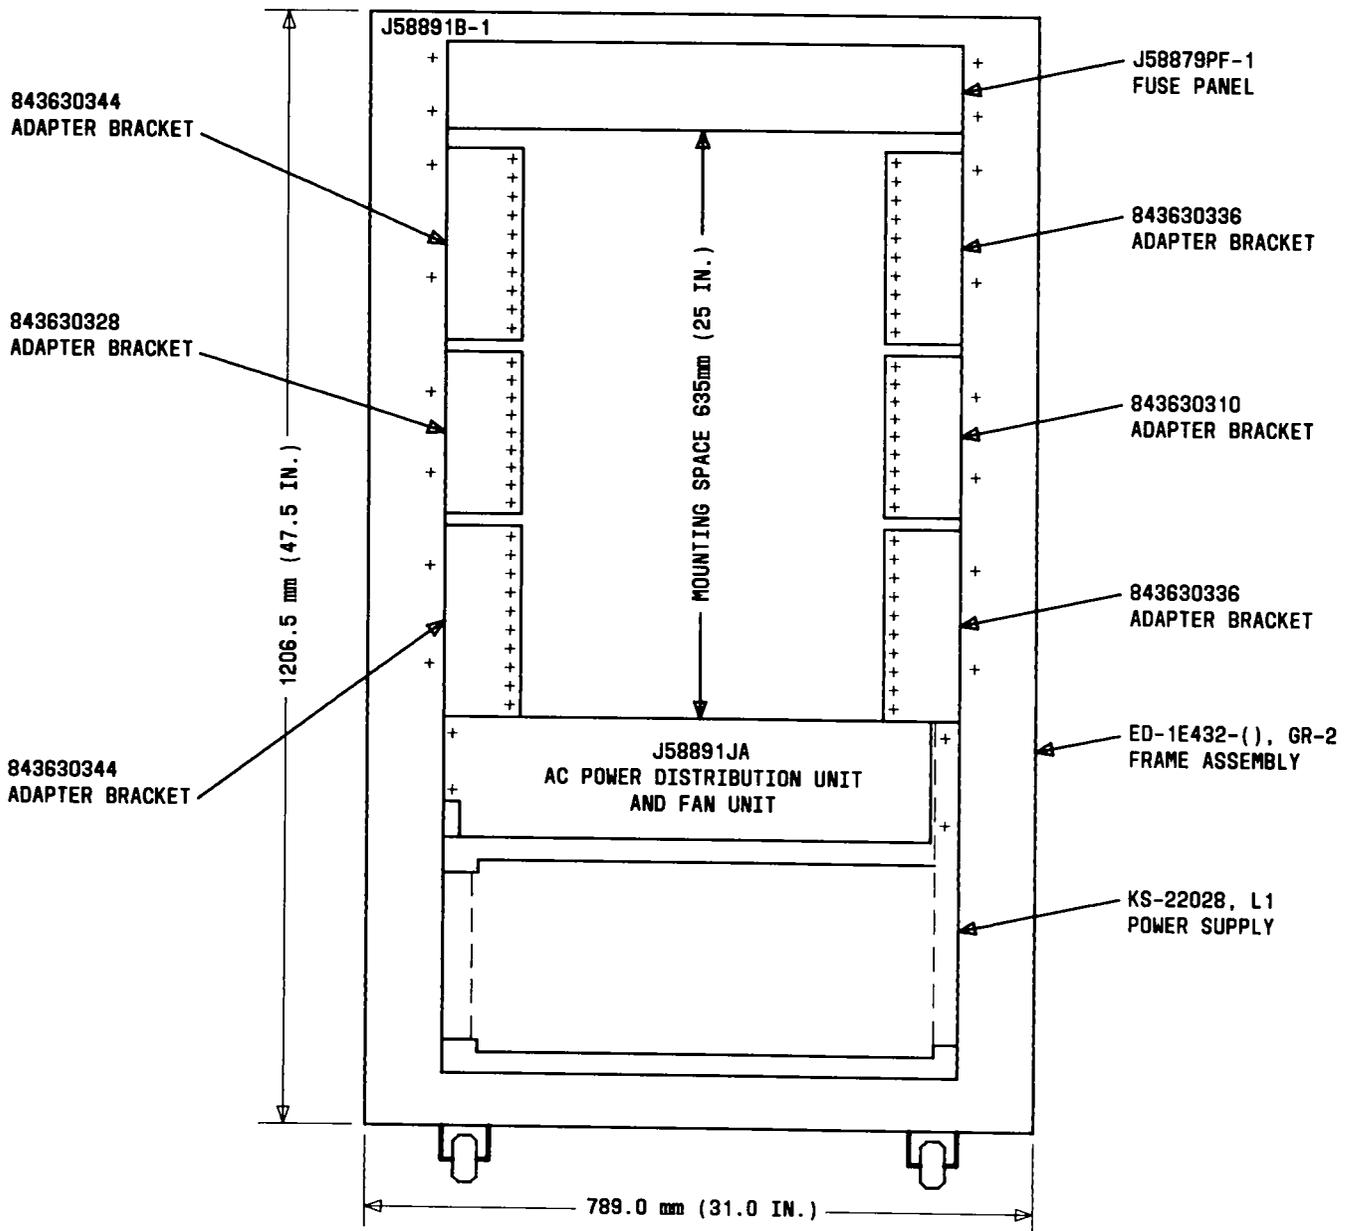

Fig. 13—J58891B Auxiliary Cabinet
**4.40** Customer premises facility terminal (CPFT) equipment is available to provide transmission and signaling range extension for the system line and trunk circuits. The CPFT equipment consists of metallic facility terminal (MFT) circuit packs and terminal balancing networks housed in connectorized shelves (carriers). The CPFT is a standard arrangement that supplies all of the transmission and signaling functions required to terminate either 2-wire or 4-wire metallic facilities. Customer premises facility terminal equipment may be installed in the auxiliary cabinet (Fig. 13) or any suitable 584-mm (23-inch) mounting frames. Detailed list information on CPFT equipment is contained in the following sections: